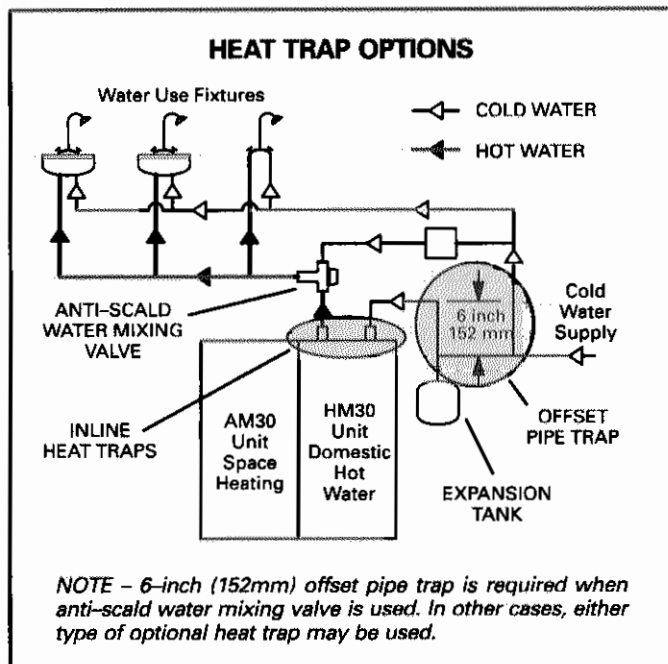

FIGURE 14
- ☐ Heat traps minimize energy loss due thermal siphoning. Either inline heat traps or a 6-inch (152mm) offset pipe trap may be used for this purpose. The 6-inch (152mm) offset pipe trap is required when the optional anti-scald water mixing valve is used. See figure 14.